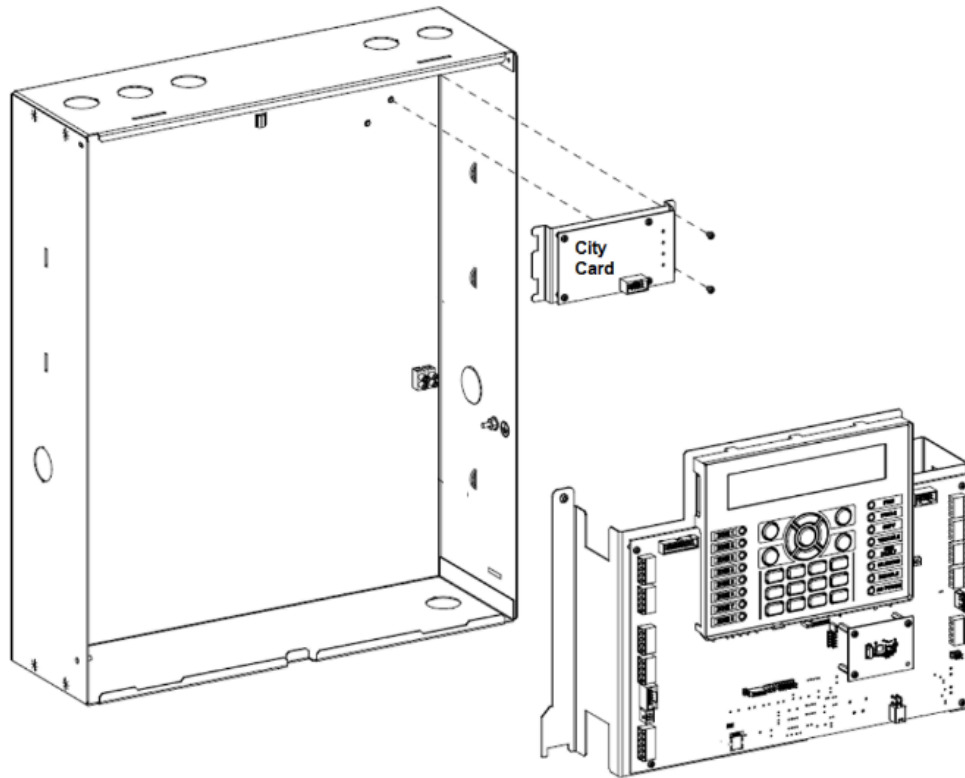

Figure 18: City card mounting
4. Using the two supplied #6 Torx screws, mount the card on the top right corner of the cabinet as shown in Figure 18.